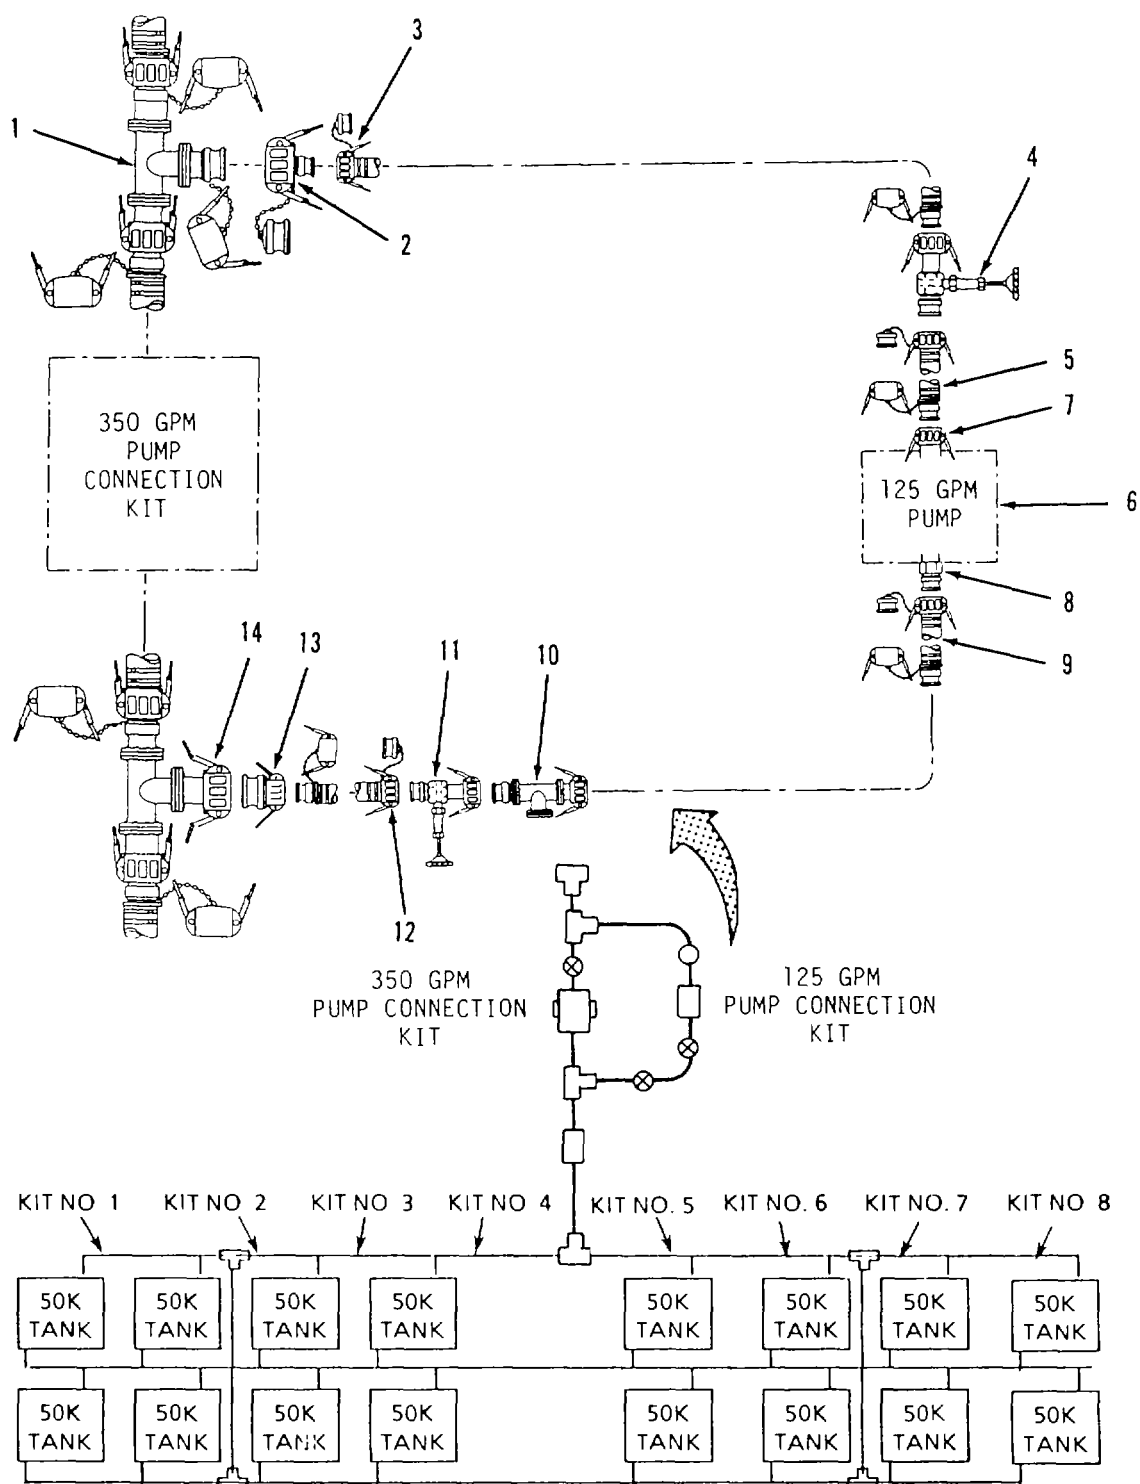

Figure 2-33. 125 GPM Pump Assembly Connection Kit (Water Source)
- (19) Prepare hypochlorination unit (14) for movement. Refer to the applicable TIM.
- (20) Prepare 350 gpm pump (8) for movement. Refer to the applicable TM.
- (21) Drain and allow components to dry.
- (22) Install caps and plugs on component couplings (para 2-10c).
- (23) Roll up all discharge hoses and secure with tape.
i. Disassemble 125 GPM Pump Assembly Connection Kit (Water Source). Refer to figure 2-33.